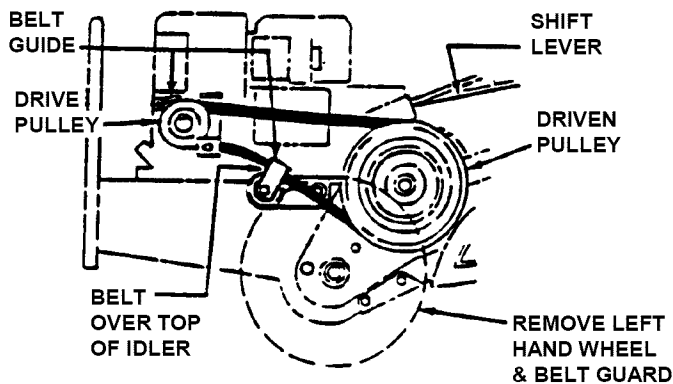

FIGURE 15
3.5.2 BELT REPLACEMENT: Pull the clevis pin from the left wheel and slide the wheel out 1", remove belt guard and then the old belt. NOTE: Replacement belt must go over the top of the idler and be within the belt guide as shown in Figure 15. Check belt tension as described in BELT TENSION ADJUSTMENT Section. Reinstall guard, push left wheel back into position, secure with clevis pin and insert, and secure cotter pin.